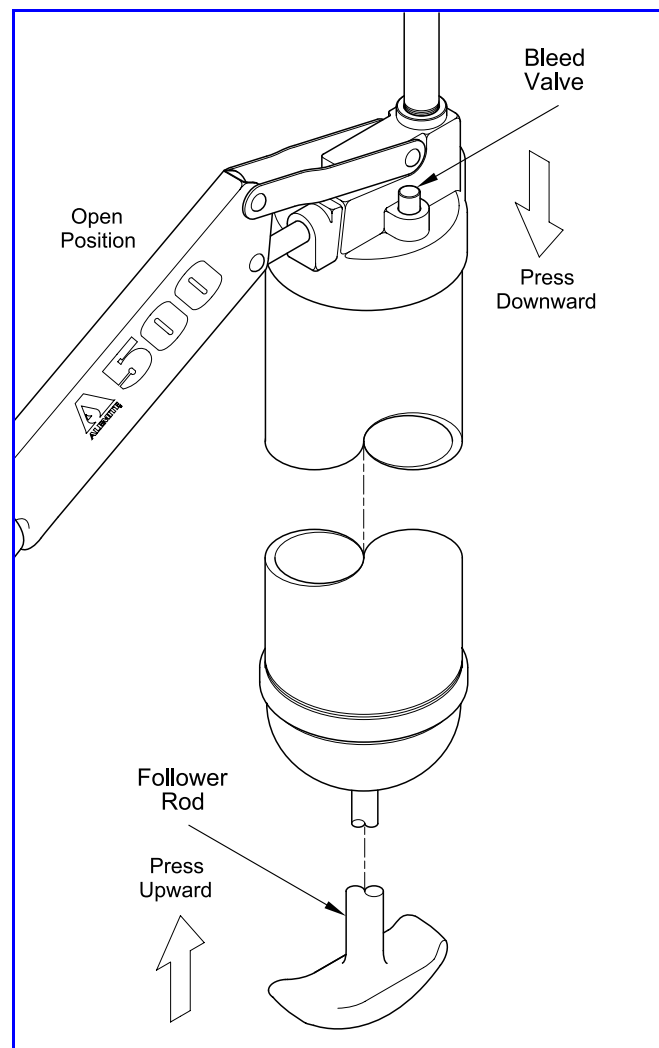

Figure 6 Force Priming the Gun
4. Depress the Bleed Valve and at the same time push the Follower Rod into the gun's Cylinder. See **Figure 6**.